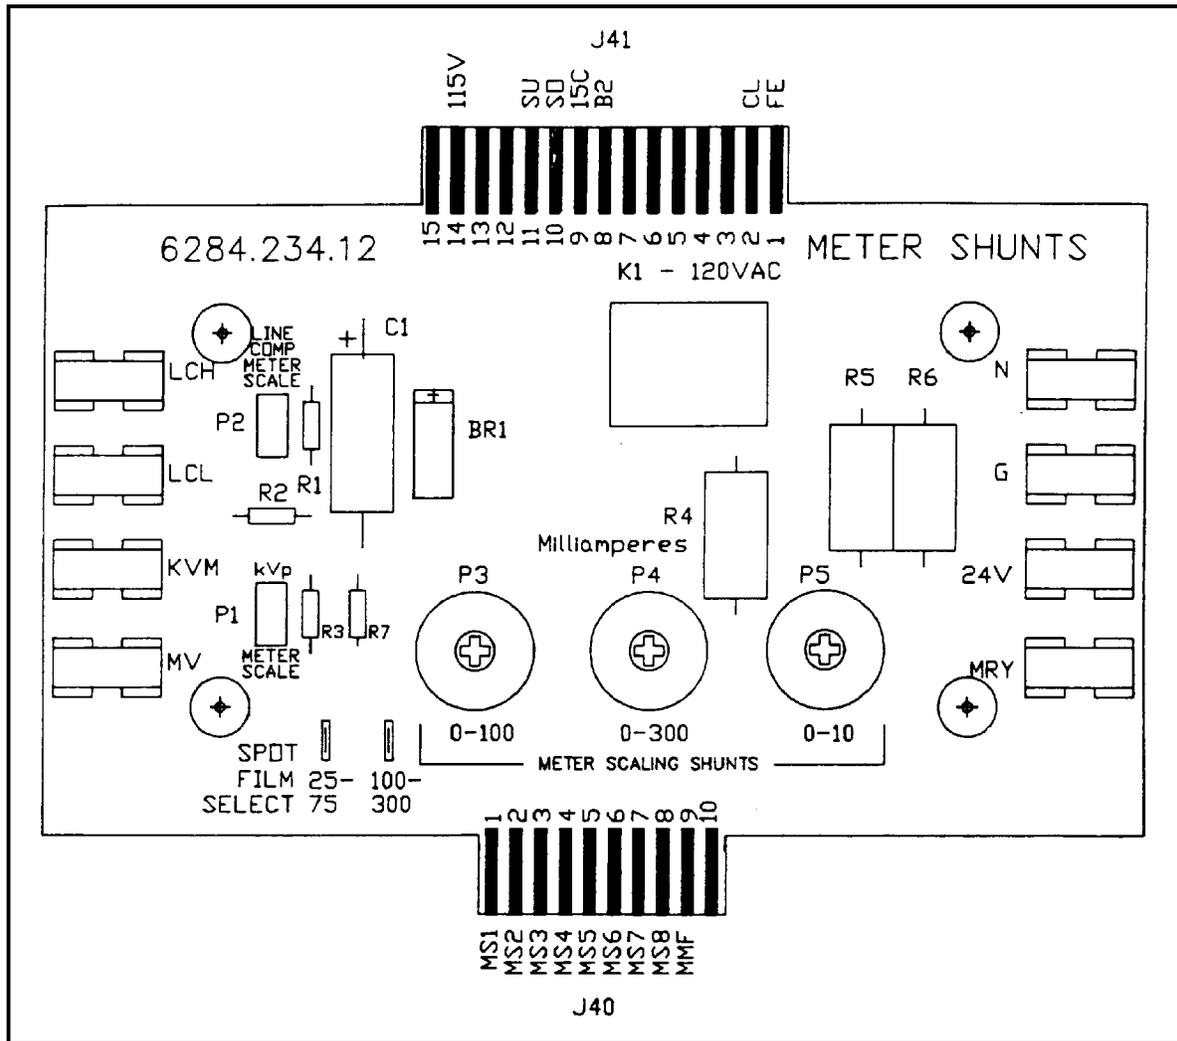
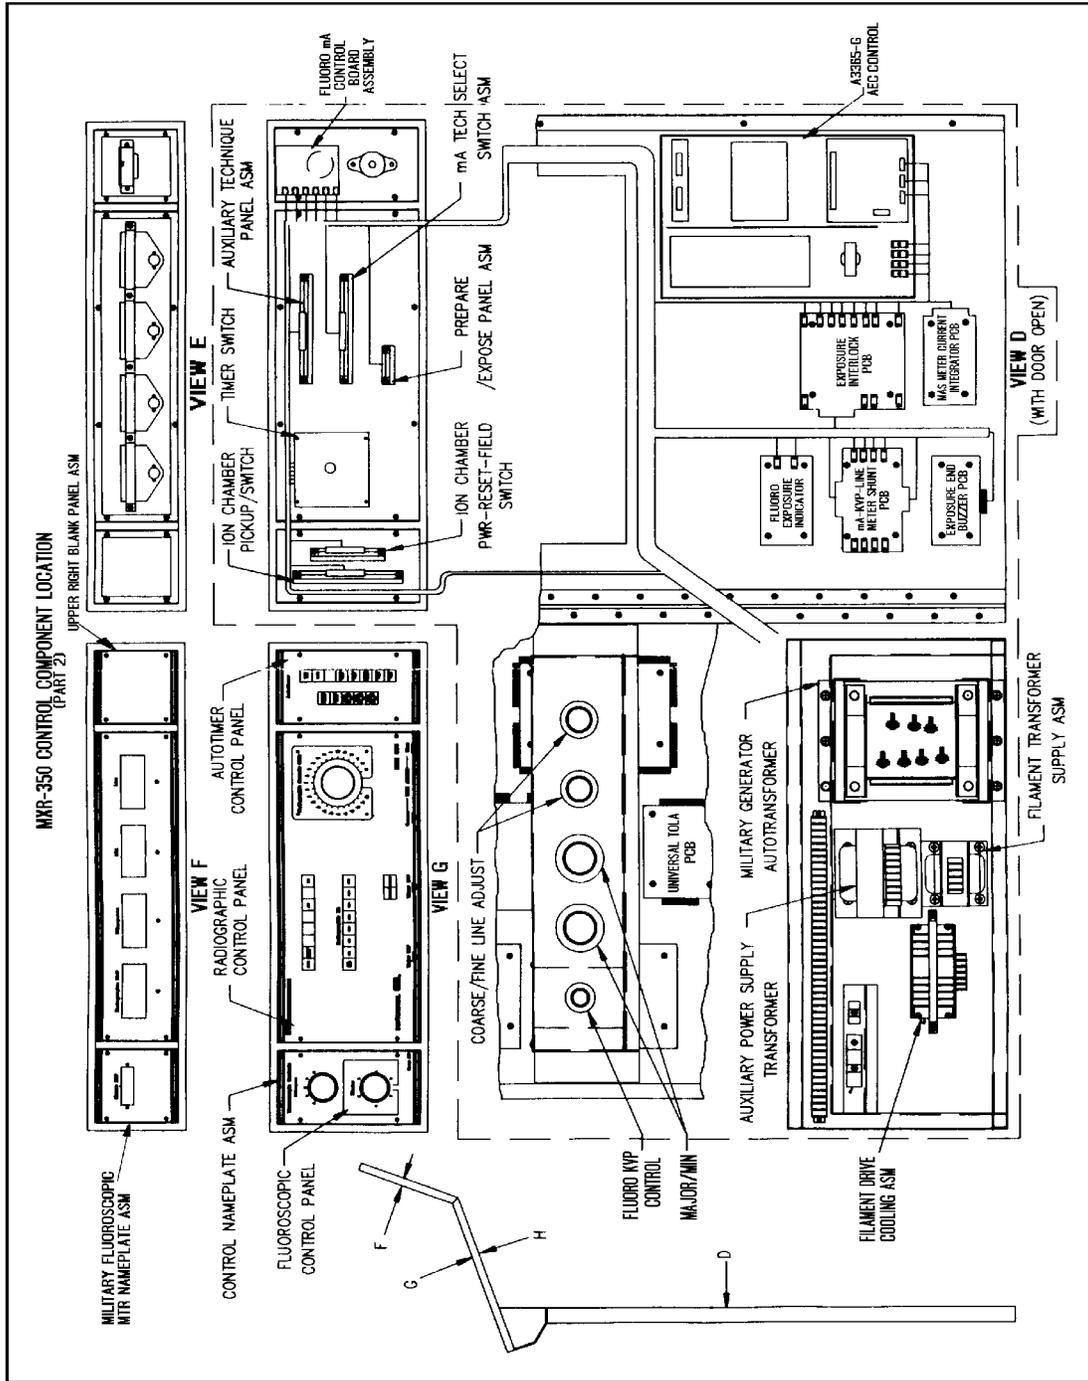

Figure 3-58
Figure 3-61
(1) Turn the MAINS off to the X-ray system and connect an AC volt meter between AC and AM (center taps from the major and minor kVp switches).
(2) Turn the major kVp and minor kVp controls fully clockwise and turn the MAINS on. If the volt meter does not read 288 ( $\pm 3$ ) volts AC, adjust the Line Adjust Coarse and Fine controls until it does.
(3) Adjust P2 on the mA-kVp-Line Meter Shunt PCB (6284.234.12) to center the needle on the line meter. (See Figure 3-58.)
(1) Turn the MAINS off and connect a voltmeter across MRY and MV on the mA/kVp/Line Shunt Meter PCB (6284.234.12) with the positive lead on MRY. (See Figure 3-58.) Set the voltmeter range to read at least 50 volts DC.
(2) Turn the MAINS on. Select 25S mA and <1/10 second>.
(3) Rotate the major and minor kVp selector switches until 50 volts DC (+0.3 volts) is read on the voltmeter. (See Figure 3-61.)
(4) Adjust P1 (Meter Scale) on the mA/kVp/Line Shunt Meter PCB (6284.234.12) for 150 kVp. (See Figure 3-58.) The radiographic kVp meter is now calibrated.
(5) Turn the MAINS off and disconnect the power cable and the control cable, P22 and P23 connectors, at the high voltage transformer.
(6) Disconnect M1 on the main terminal strip, on the lower inside of the control, and remove the card edge connectors from the left side of the Exposure Interlock PCB (6284.234.04). (See Figures 3-61 and 3-62.)
(7) Connect an ohmmeter between terminals J29-2 and J29-6 on the Exposure Interlock PCB (6824.234.04) and adjust potentiometer (pot) P4 on Exposure Interlock PCB (6824.234.04) until the ohmmeter reads 6,000 ohms resistance. Reconnect the edge connector.
(8) Connect a DC milliammeter to terminal M1 in series with the positive lead of an adjustable DC current source. Connect the negative lead of the current source to G (any convenient ground source on the terminal strip).
(9) Turn the MAINS on and select 200L SPOT. Set the current source to 7.5 mA, as read on the multimeter.
(10) Read the control's mA meter on the 10 mA scale and adjust pot P5 on mA/kVp/Line Meter Shunt (6284.234.12), until it reads 7.5 mA. (See Figure 3-58.)
(11) Select 50S mA and adjust the current source to 75 mA, as read on the multimeter. Adjust pot P3, on mA/kVp/Line Meter Shunt (6284.234.12), until it reads 75 mA on the 100 mA scale of the control's mA meter.
(12) Select 300L mA and adjust the current source to 300 mA, as read on the multimeter. Adjust pot P4, on mA/kVp/Line Meter Shunt (6284.234.12), until it reads 300 mA on the 400 mA scale of the control's mA meter.
(13) Turn the MAINS off and reconnect P22 and P23 to the high voltage transformer.